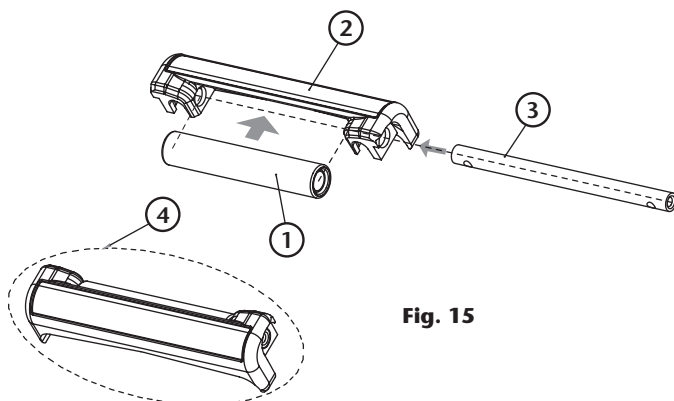

Fig. 15
3. Once the roller outlet assembly has been cleaned or replaced by a new one, it is necessary to assemble all its components. For doing this, first of all you should place the long rollers (1) (fig. 15) in its position over the roller supports (2) (fig. 15), and go through this assembly with the long axles (3) (fig. 15). This way, you should have two equal components pre-assembled (4) (fig. 15).